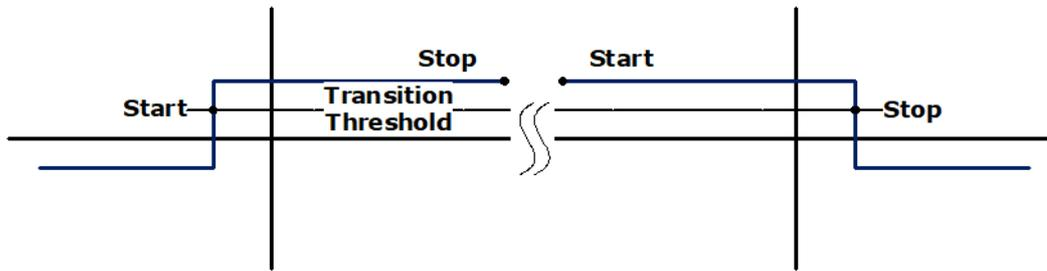

Figure 5-2. Step Waveforms
8. The process follows a similar procedure to locate the top amplitude (top line). The power range for the top histogram is 5 dB and the resolution is 0.02 dB, resulting in 250 levels. The level-crossing histogram is computed for a single pulse, using the samples which exceed the transition threshold. If only one transition exists in the buffer (Types 2 and 3), the process uses the samples that lie between the edge of the screen and the transition threshold as shown in Figure 5-2.